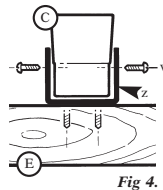

Fig 3.
Assemble Roof by fixing Beams (B & C) to Centre Block (G) with 3" screws (y) and top Block with the Ball Cap (F) (see Fig.3 right).